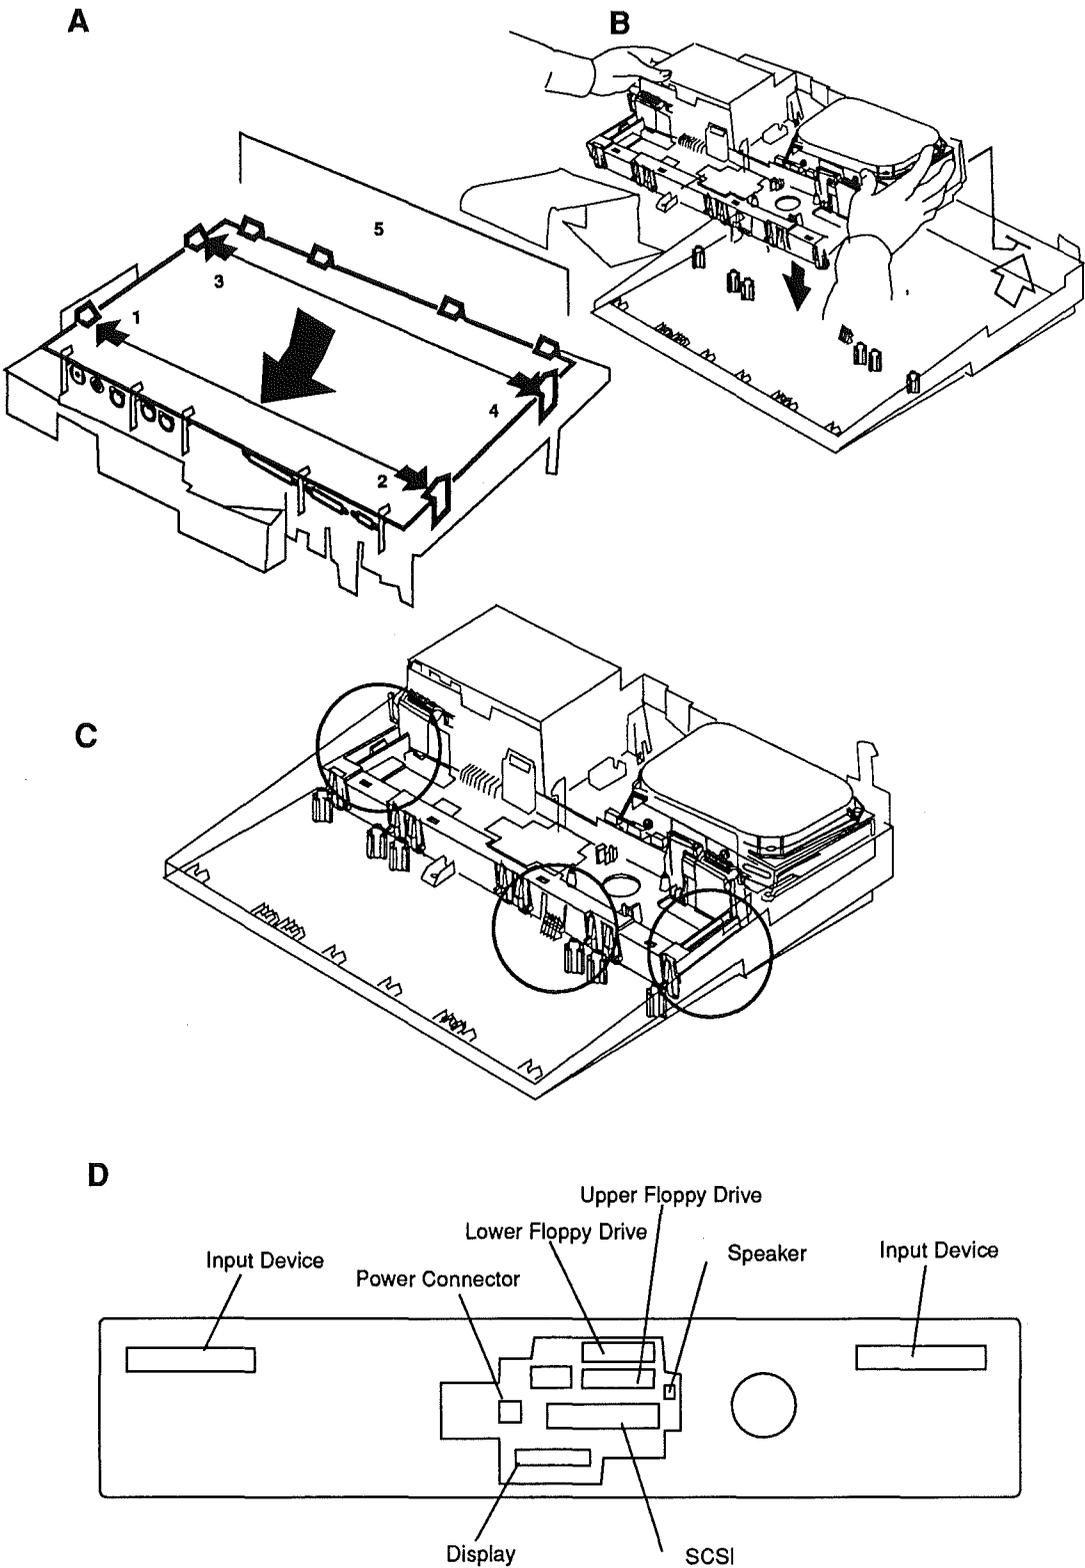

FIGURE 18
1. **Figure 18-A.** Holding the logic board at an angle, place the rear edge of the logic board into the plastic clips at the back of the subframe.
2. **Figure 18-A.** Lower the front of the logic board into the subframe and gently but firmly press the board into each plastic clip in the order shown in the illustration.
3. **Figure 18-B.** Place the subframe in position in the bottom case.
4. **Figure 18-C.** Press down on the subframe as shown in the illustration until the three plastic clips snap in place.
5. **Figure 18-D.** Using the illustration as a guide, connect the following cables to the logic board: